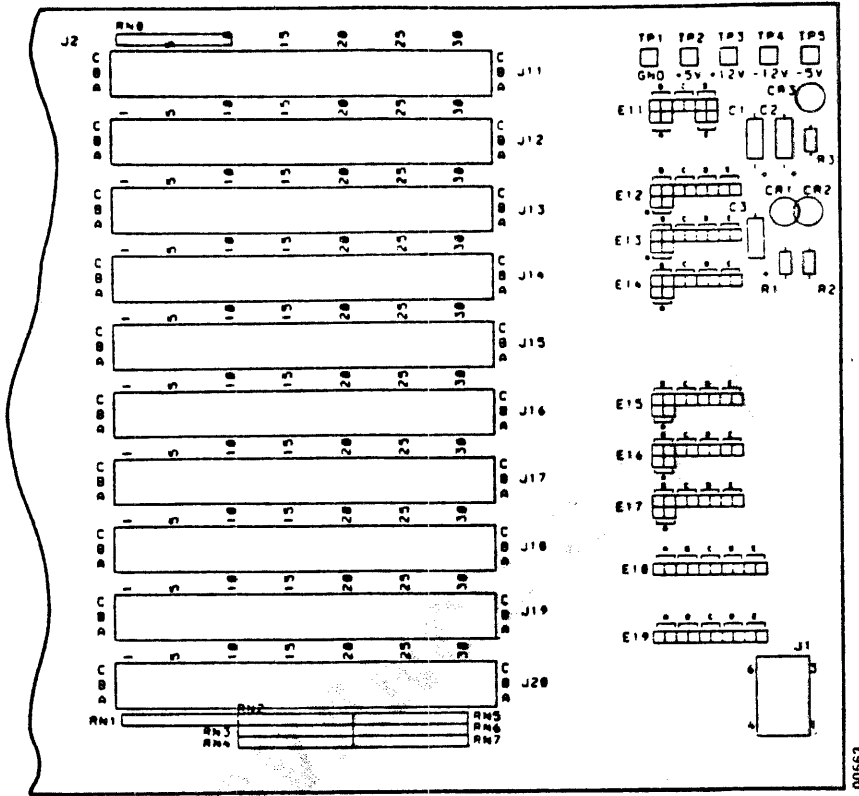

Figure 5-2 CPU Module Power Supply Voltage Test Points
6. Check the following dc output voltages at their respective test points as shown in Figure 5-2.